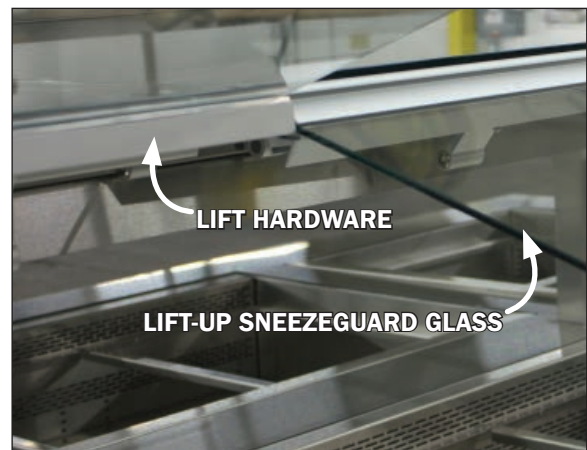

Fig. 18 Lift-Up Sneezeguard Glass and Hardware
2. Carefully, applying subtle pressure lift the sneezeguard glass with two hands, placed in balanced positions along the glass panel, and clean (Fig. 18). **Note: This job is best done with two people. One person to lift/hold the glass and another to clean the underside.**